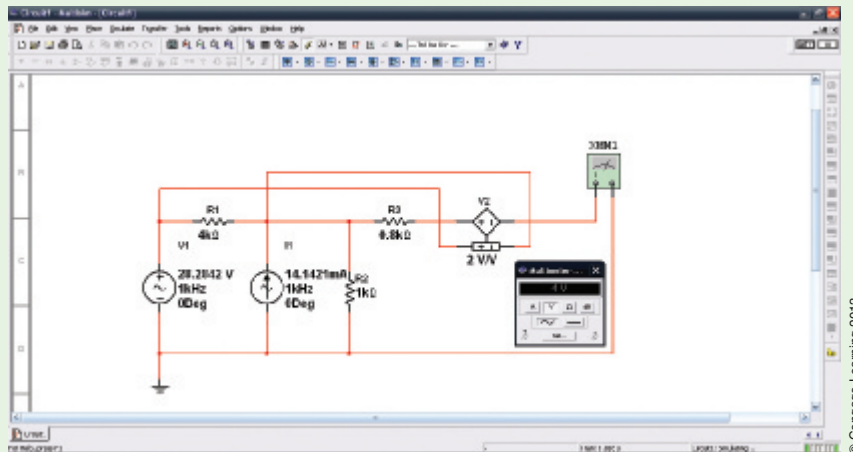

FIGURE 20–66
All components are selected from the *Virtual Components* toolbar. Since we will use an ac multimeter to measure RMS quantities, we set the amplitudes of the voltage and current sources to **28.28 V** and **14.14 mA**, respectively. We use 1 kHz as the frequency of operation, although any frequency may be used. The *Voltage-controlled* voltage source is selected from the *Sources* parts bin and the gain is adjusted by double-clicking on the symbol. The *Value* tab is selected and the *Voltage gain (E)* is set to **2 V/V**. The multimeter must be set to measure ac volts. As expected, the reading on the multimeter is 4 V. Current is easily measured by setting the multimeter onto its ac ammeter range as shown in Figure 20–67. The current reading is 1.25 mA. A limitation of Multisim modelling is that the model does not indicate the phase angle of the voltage or current.